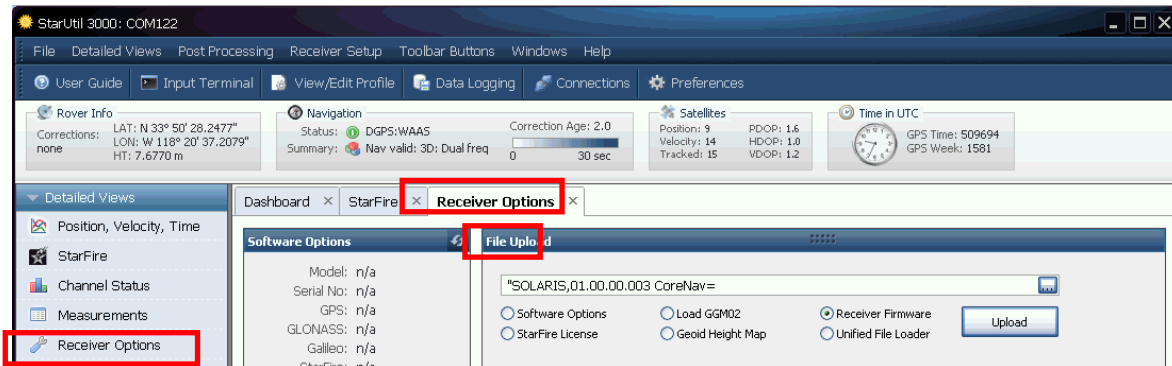

Figure 9: Receiver Options Tab
1. In StarUtil 3000, click *Receiver Options* on the *Detailed Views* menu to open the *Receiver Options* tab (see Figure 9).